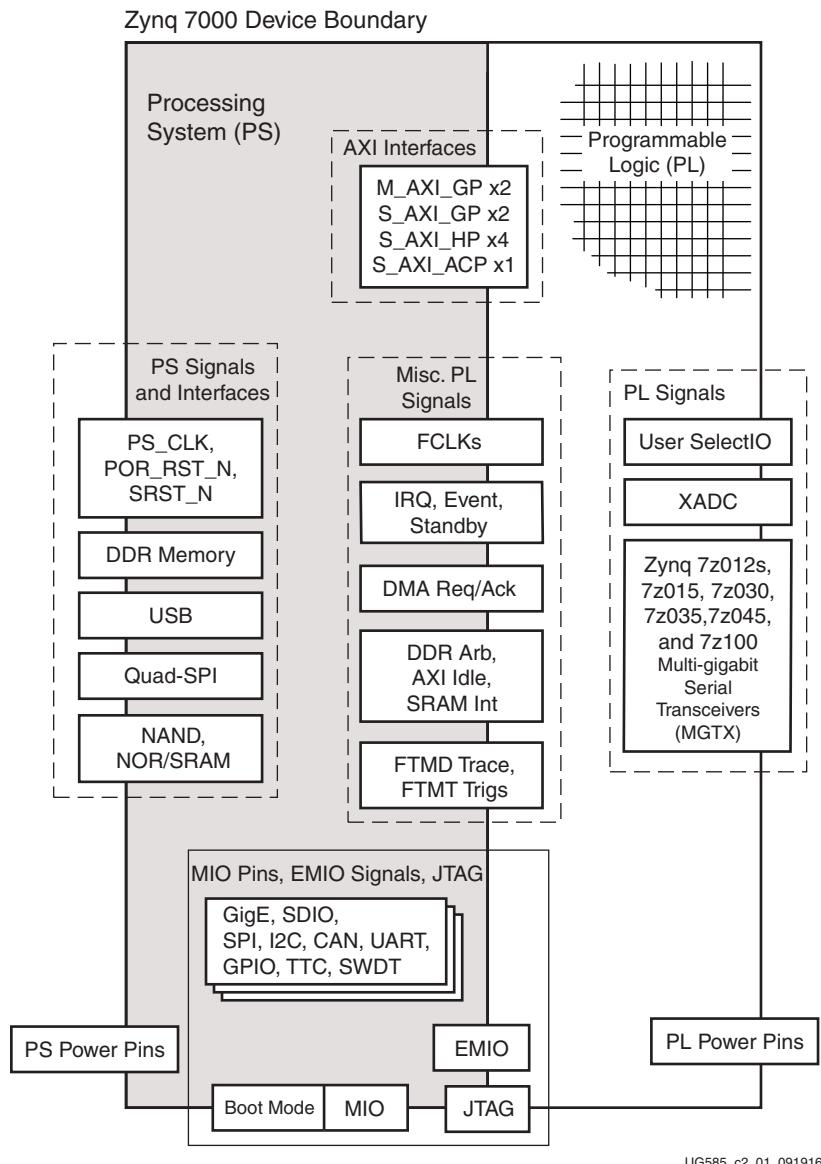

Figure 2-1: Signals, Interfaces, and Pins
This chapter identifies the user visible signals and interfaces in Zynq™ 7000 SoC devices. The interfaces and signals are organized into major groups as shown in Figure 2-1. The Zynq 7000 SoC devices consist of a Processing System (PS) with an AMD Artix™ 7 or Kintex™ 7 based Programmable Logic (PL) block.